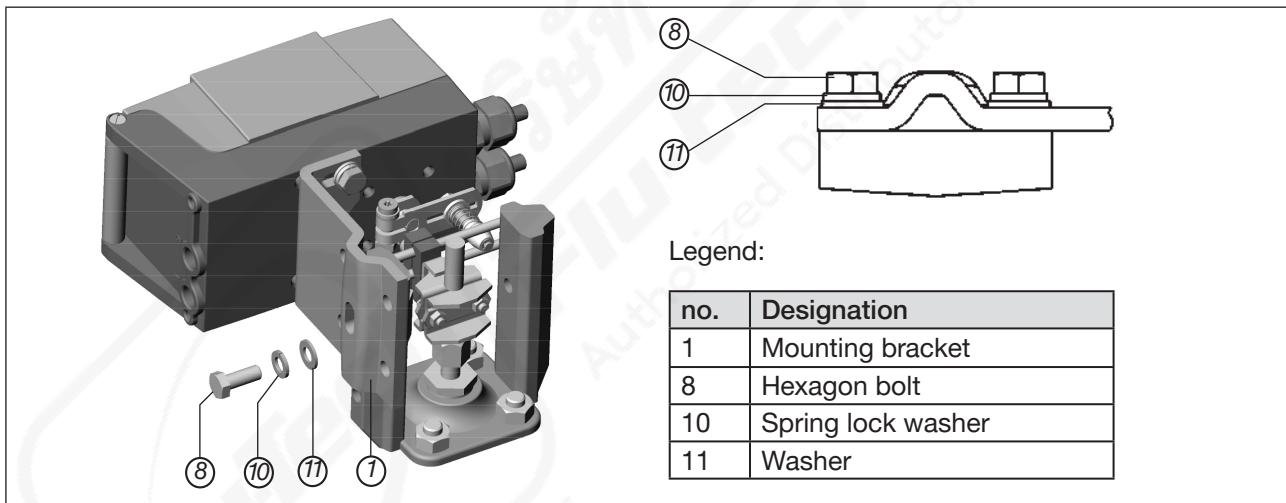

Figure 20: Attaching the positioner with the mounting bracket; for actuators with a cast frame
→ Attach the mounting bracket to the cast frame using one or more hexagon bolts ⑧, the washers ⑪ and the spring lock washers ⑩ (see "Figure 20").